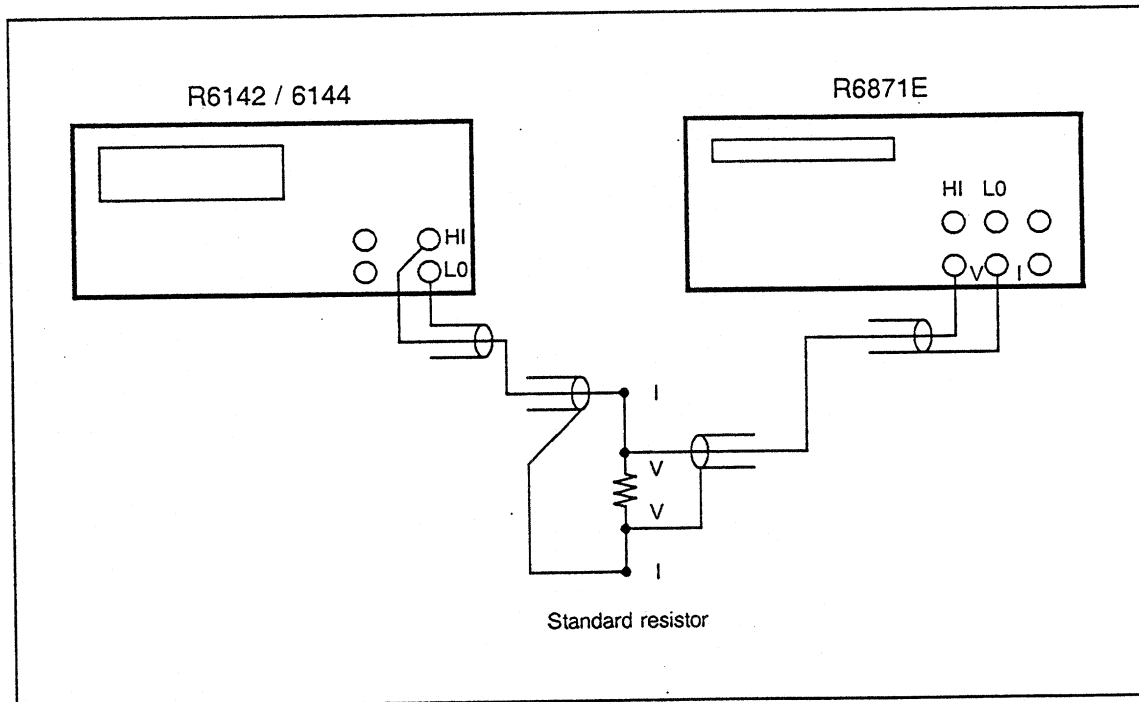

Figure 5-4 Cable Connection for Output Current Calibration
- ① Connect the R6142/6144 to the R6871E as shown in Figure 5-4.